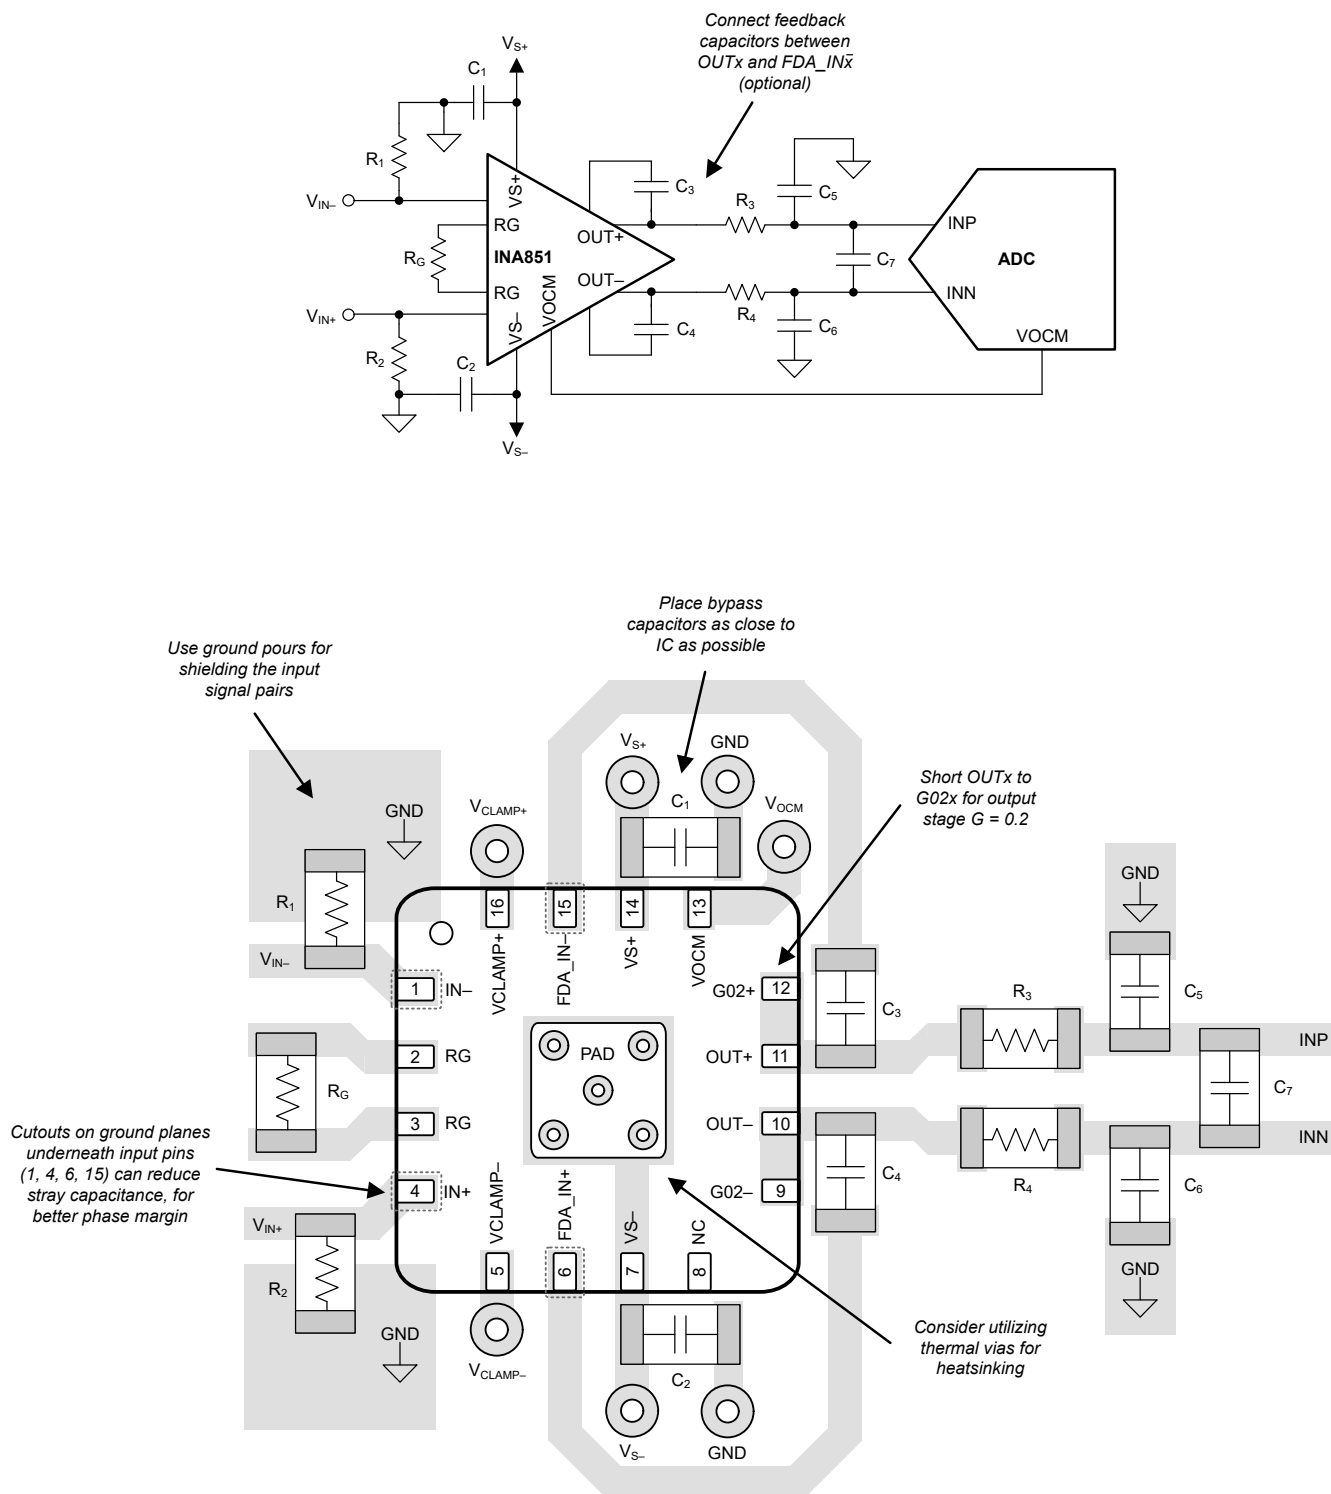

图 9-14. Example Schematic and Associated PCB Layout
- As shown in Figure 9-14, keep the external gain resistor close to the RG pins to keep the loop inductance as low as possible and to avoid a potential parasitic coupling path. Even slight mismatch in parasitic capacitance at the gain setting pins can degrade CMRR over frequency. In applications that implement gain switching using switches or PhotoMOS[®] relays to change the value of R_G , select the component so that the switch capacitance is as small as possible, and most importantly, so that capacitance mismatch between the RG pins is minimized.